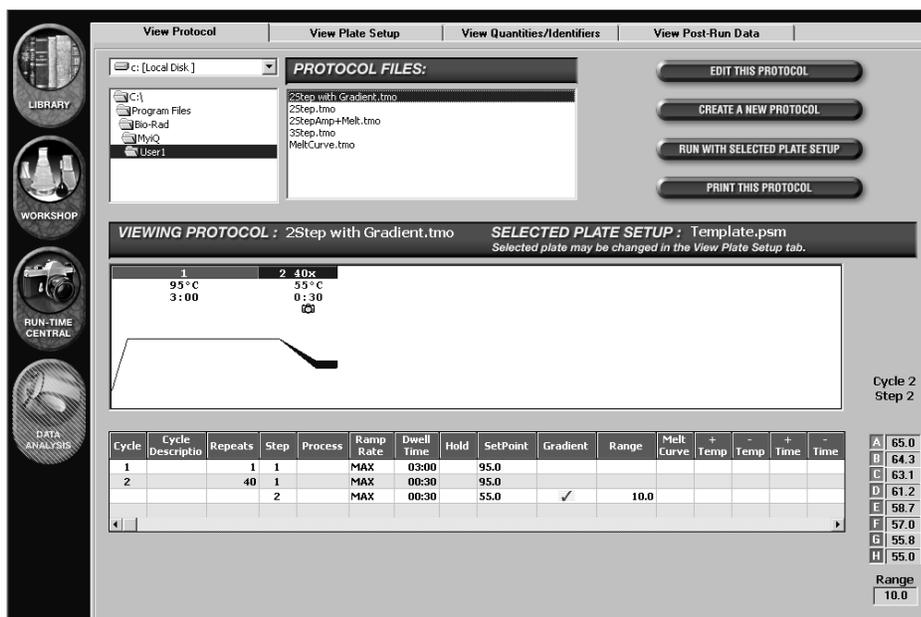

Fig. 4.2. Library / View Protocol window showing a gradient protocol.
- **View Plate Setup:** Allows the navigation of stored plate setup files. Provides information about the location of sample wells, the sample type, and the fluorophore that will be analyzed. Saved plate setup files may be selected for the initiation of a new run, or opened for editing, or a new plate setup may be created (see Figures 4.2 and 4.3).
- The presence of a thickened trace in the graphical display indicates a gradient step (see Figure 4.2). To view the set point temperatures of specific rows, view the gradient temperatures chart, which appears next to the spreadsheet.